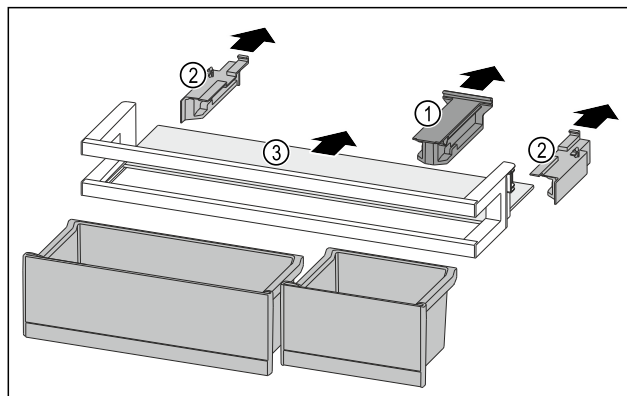

Fig. 100
- Pull off the holding part Fig. 100 (1).
- Pull off the side parts Fig. 100 (2).
- Remove the shelf Fig. 100 (3).